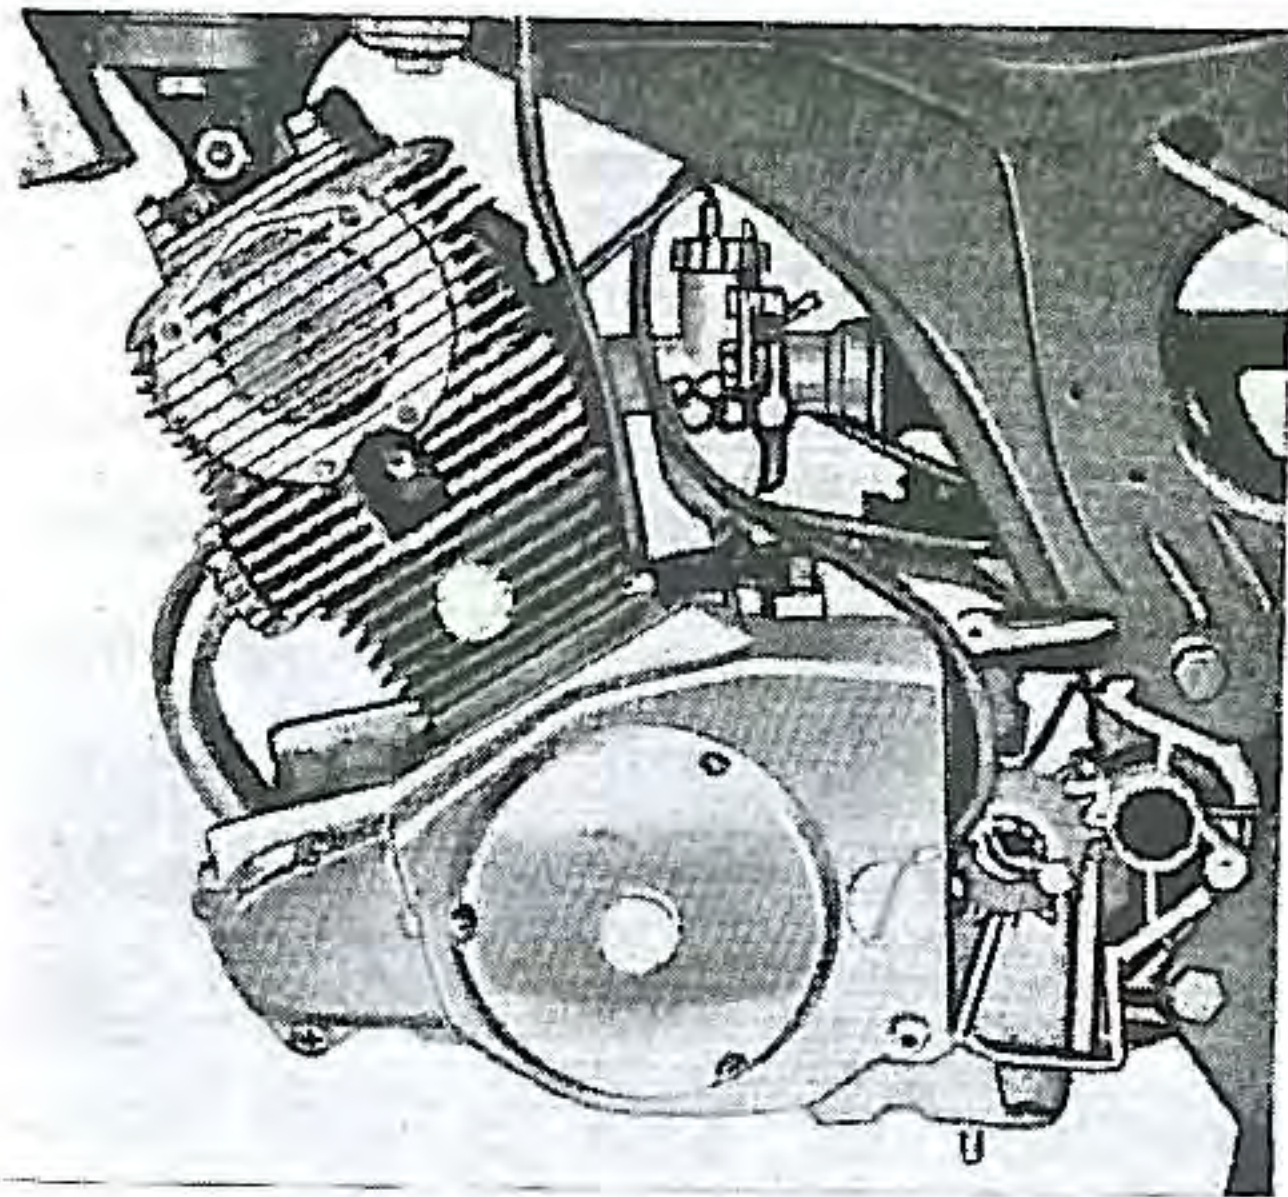
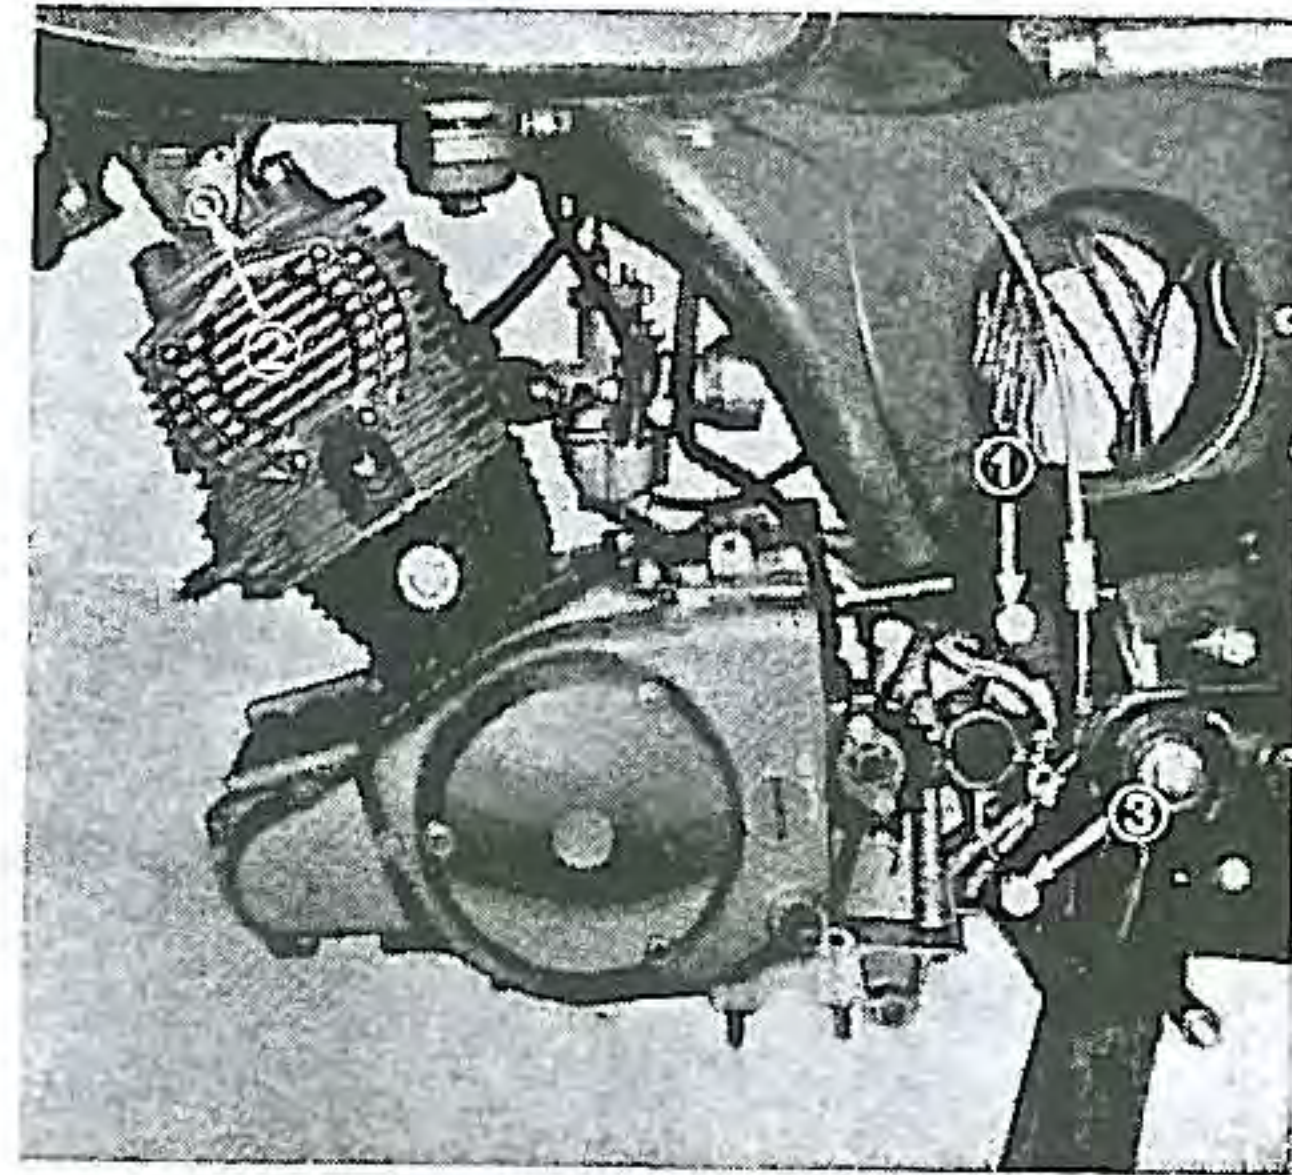

Fig. 19. Release secondary wire
Fig. 20. Position of engine supporting bolts
- (9) Remove the spark plug cap at the end of the secondary wire and release the wire from the hole between the cylinder head fins. (Fig. 19)
- (10) Place a support of suitable height under the crank case to support the engine before removing the engine mounting bolts.
Remove all the nuts from those bolts shown in (Fig. 20) with numbers ①, ②, ③ on both side of frame.